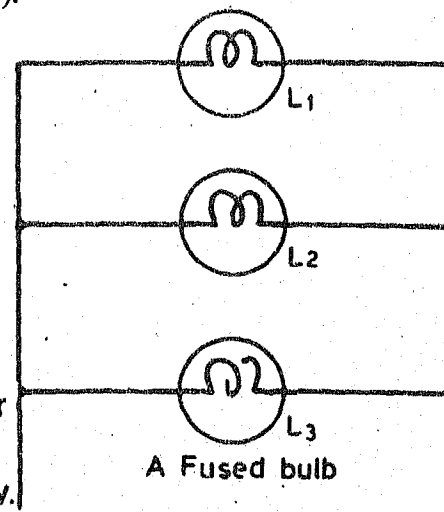

Fig.10.8 Lamp  $L_1$  will not glow. However  $L_2$  and  $L_3$  will continue to glow.
- (ii) If any lamp goes out of order the other lamp will continue to glow. Therefore independent control is possible. This is the reason for using the parallel connection in domestic wiring. All the appliances that are used in our homes are connected in parallel (See Fig. 10.8).